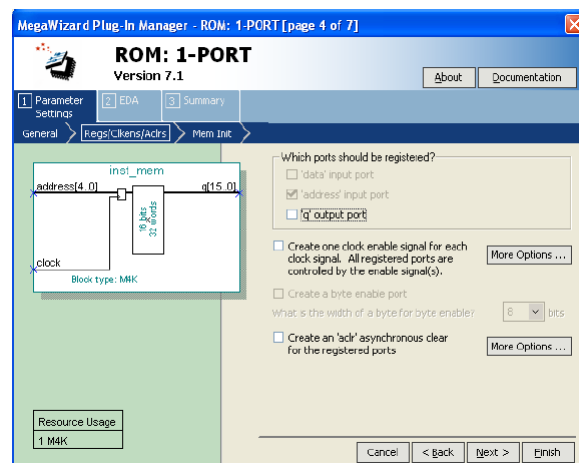

Figure 5. 1-PORT configuration.
2. Generate a top-level VHDL file that instantiates the processor, memory, and counter. Use the Quartus II MegaWizard Plug-In Manager tool to create the memory module from the Altera library of parameterized modules (LPMs). The correct LPM is found under the *Memory Compiler* category and is called *ROM: 1-PORT*. Follow the instructions provided by the wizard to create a memory that has one 16-bit wide read data port and is 32 words deep. Page 4 of the wizard is shown in Figure 5. Since this memory has only a read port, and no write port, it is called a *synchronous read-only memory (synchronous ROM)*. Note that the memory includes a register for synchronously loading addresses. This register is required due to the design of the memory resources on the Cyclone FPGA; account for the clocking of this address register in your design.